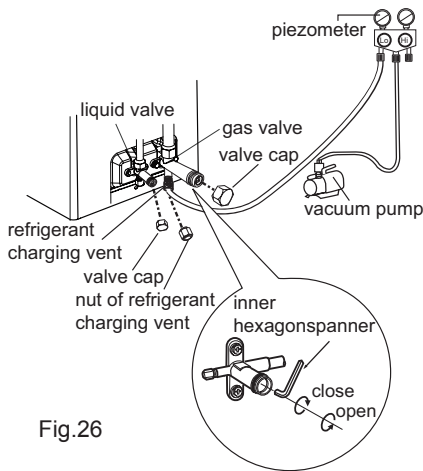

Fig.26
6. Tighten the screw caps of valves and refrigerant charging vent. (As show in Fig.26)